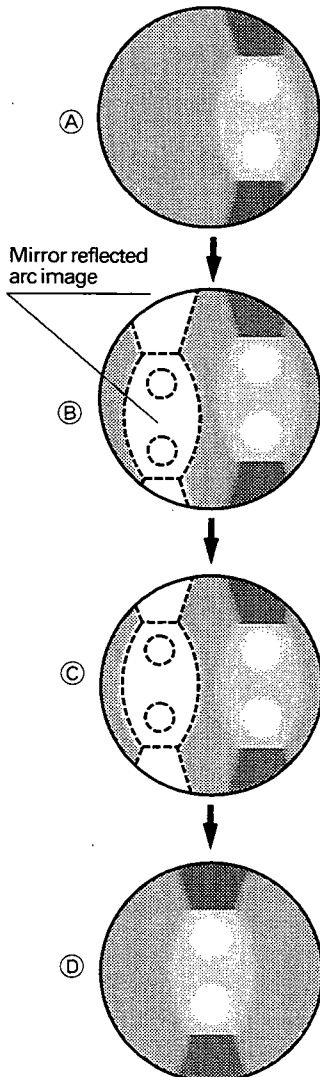

Fig. 19
6. Turn the burner horizontal centering knob ② slightly to move the arc image to the right (or left) side. (Fig. 19 A)
7. Using the Allen wrench provided with the vertical illuminator, turn the mirror focusing screw ⑥, mirror horizontal centering screw ④ and the mirror vertical centering screw ⑤ to project the secondary arc image reflected from the mirror onto the white paper. (Fig. 19 B)
8. Using the mirror centering screws ④ and ⑤, adjust so that the two images are seen as shown in Fig. 19 C. Turn the mirror focusing screw ⑥ to adjust the sizes of the two arc images so that they will be almost identical. (Fig. 19 C)
9. Turning the burner horizontal centering screw ②, superimpose the two arc images. (Fig. 19 D)
12. While looking through the eyepieces, move the collector lens focusing knob ① to adjust so that the field of view will be as bright and uniformly illuminated as possible. Then rotate the collector lens focusing knob clockwise to tighten.